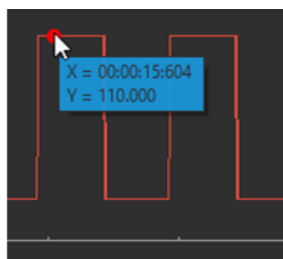

Figure 7.35: Acquisition View - Instant values
- The **Instant values** box can be activated by double-clicking the **Input graph** box and selecting **Show instant values** (Fig. 7.35). This box shows the current value detected by the console for each trace on the selected channel. This box cannot be activated on **Preview graphs**. To remove instantaneous value, double click on the dot.